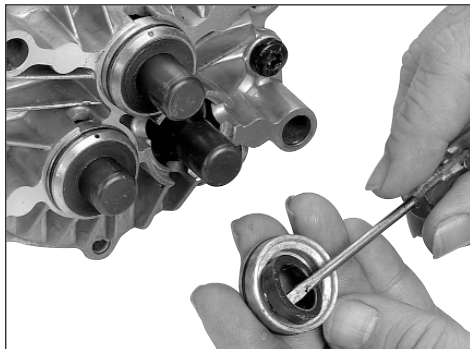

figure 18
3. Remove low pressure seal. (figure 18)